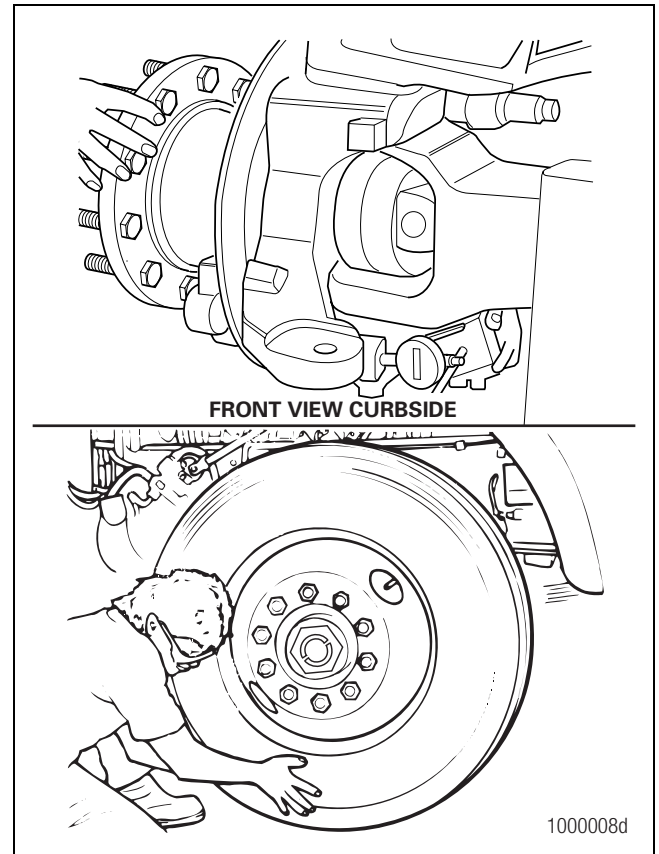

Figure 5.6
6. Check the lower king pin bushing. Install a dial indicator so that the base is on the I-beam and the tip is against the side of the bottom of the knuckle. Figure 5.6.
- **If the dial indicator moves a total of 0.010-inch (0.254 mm):** The lower bushing is worn or damaged. Replace both bushings in the knuckle. Refer to the appropriate maintenance manual for complete service information. Figure 5.6.